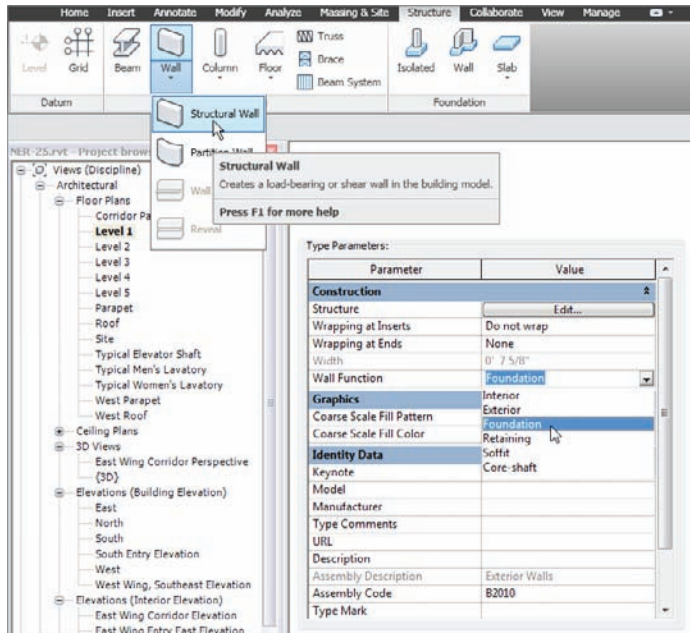

FIGURE 8.48 Adding a structural wall
2. Click the Wall > Structural Wall button on the Structure tab, as shown in Figure 8.48.
8. In the Wall Function row, select Foundation from the drop-down list, as shown in Figure 8.48.